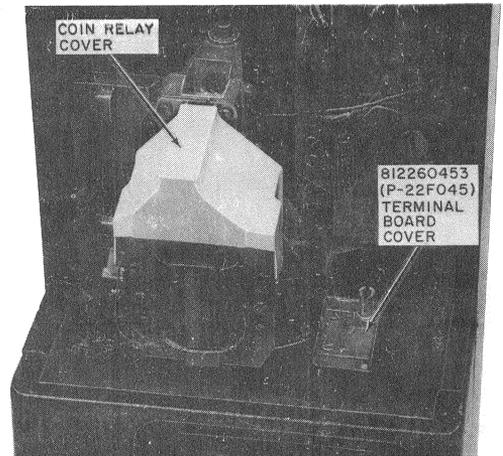

Fig. 11—Installation of Coin Relay Cover and Terminal Board Cover
4.05 Install coin relay cover and terminal board cover (Fig. 11).